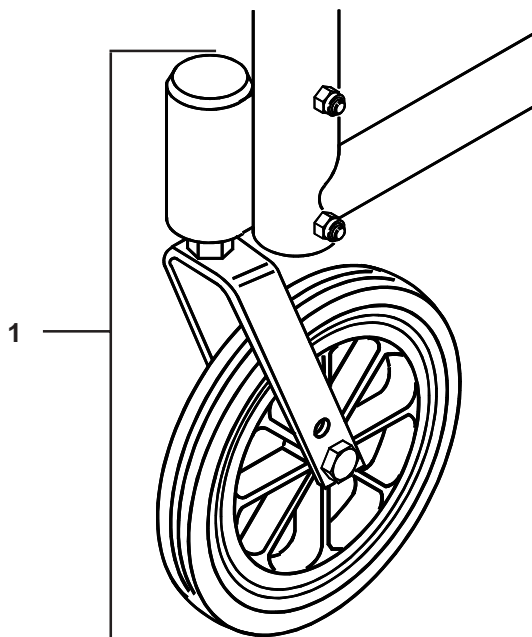

Fig. 42
After adjusting the axle position the front castors must be checked for adjustment (see page 31, Fig. 42).
To inside mount the castors (Fig. 42), reverse the positions of the castor assemblies. Remove the castor assemblies (1) from the frame (noting their positions). Inside mount the right castor on the left side and the left castor on the right side. For correct refitting follow the instructions Castor angle adjustment, ensuring that the castors are at the correct angle and the retaining nuts and bolts are tightened to the correct torque setting 8-10Nm.